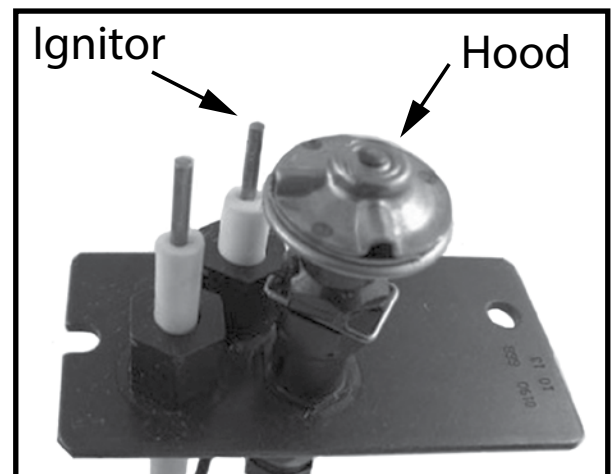

Figure 15: Esprit pilot assembly.
- b) Check the pilot system for proper flame size and operation. Clean pilot free (Figure 15) of soot, dust or any other deposits.